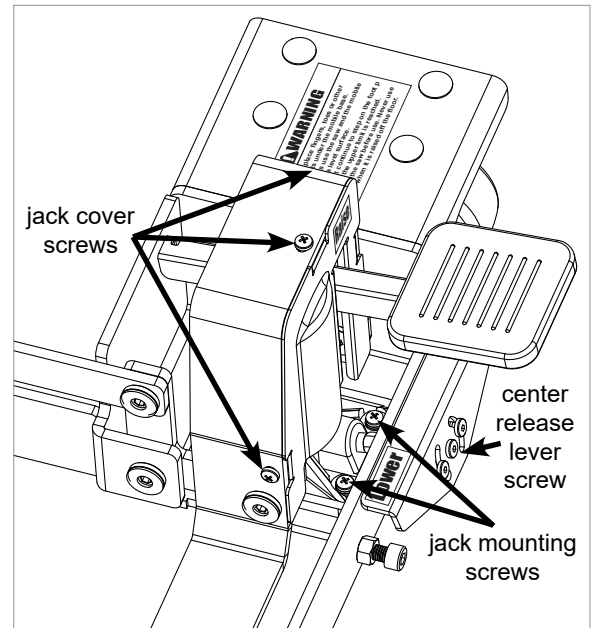
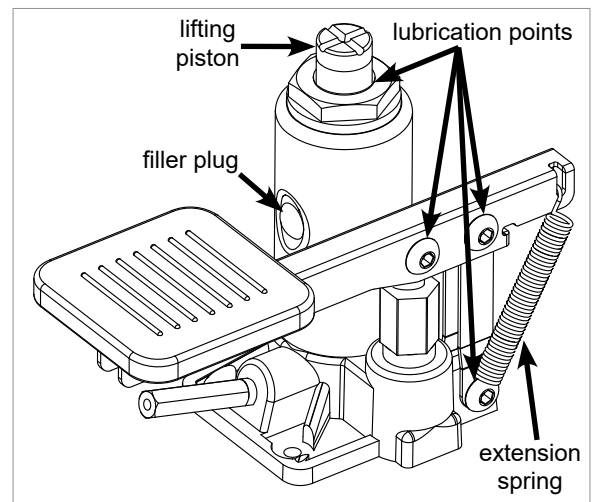

Fig. 8
Fig. 9
- Use SAE 30 oil to periodically lubricate the points shown in Fig. 9. To access the lubrication points, remove the three jack cover screws using a Philips head screwdriver (see Fig. 8) and then remove the jack cover.
1. Make sure the saw is lowered to the ground. Remove the center release lever screw shown in Fig. 8 using a 3 mm hex key. Remove the three jack cover screws, and the two jack mounting screws using a Philips screwdriver.
3. Place a flat head screwdriver on top of the jack lifting piston (see Fig 9) and push the piston down as far as possible. Remove the jack by tilting the top forward and sliding the hexagonal shaft back out of the hole in the mobile base frame.
4. Once the jack is removed, place it in an upright position and remove the extension spring. Completely depress the foot pedal. Remove the rubber filler plug shown in Fig. 9 by pulling it out with your fingers or prying it out with a flat head screwdriver. Add hydraulic jack oil so that the oil level is just to the bottom of the filler hole. Use only hydraulic jack oil. Replace the filler plug and extension spring and reinstall the jack by reversing the steps set forth above. Finally, verify that the support bracket is properly adjusted so that it is supporting the hexagonal shaft.